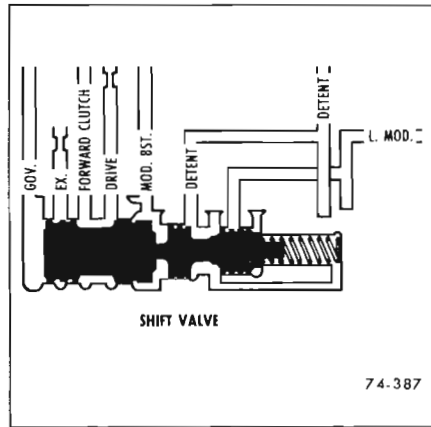

Figure 74-16—Shift Valve and Shift Control Valve
**h. Shift Valve and Shift Control Valve (See Figure 74-16)**